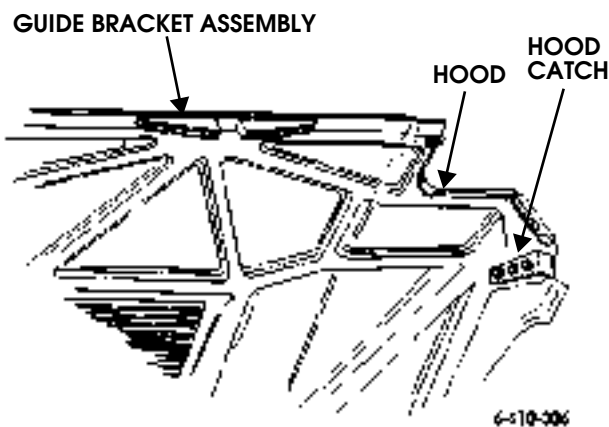

Figure 10-87: Guide Bracket Assembly Location
6. Tighten and recheck guide bracket assembly position. When properly positioned, tighten to 10 lb-ft (14 N•m) (Figure 10-87).